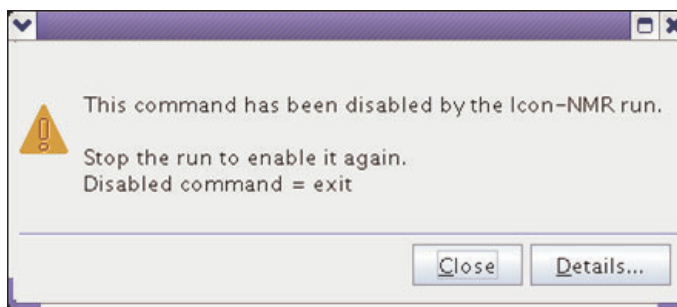

Figure 13.9
3.) If ICON-NMR runs actively at the exit-moment, TopSpin cannot be closed (see Figure 13.9).